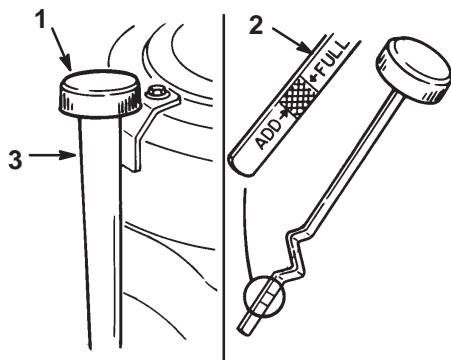

Figure 21
2. Clean around the oil dipstick (Fig. 21) so dirt cannot fall into the filler hole and damage the engine.
3. Unscrew the oil dipstick and wipe the metal end clean (Fig. 21).
4. Slide the oil dipstick fully into the filler tube, do not thread onto tube (Fig. 21). Pull the dipstick out and look at the metal end. If oil level is low, slowly pour only enough oil into the filler tube to raise the level to the "FULL" mark.
5. Slowly pour approximately 80% of the specified oil on page 25, into the filler tube (Fig. 21). Now check the oil level; refer to Checking Oil Level, page 25. Slowly add additional oil to bring to "FULL" mark on dipstick.